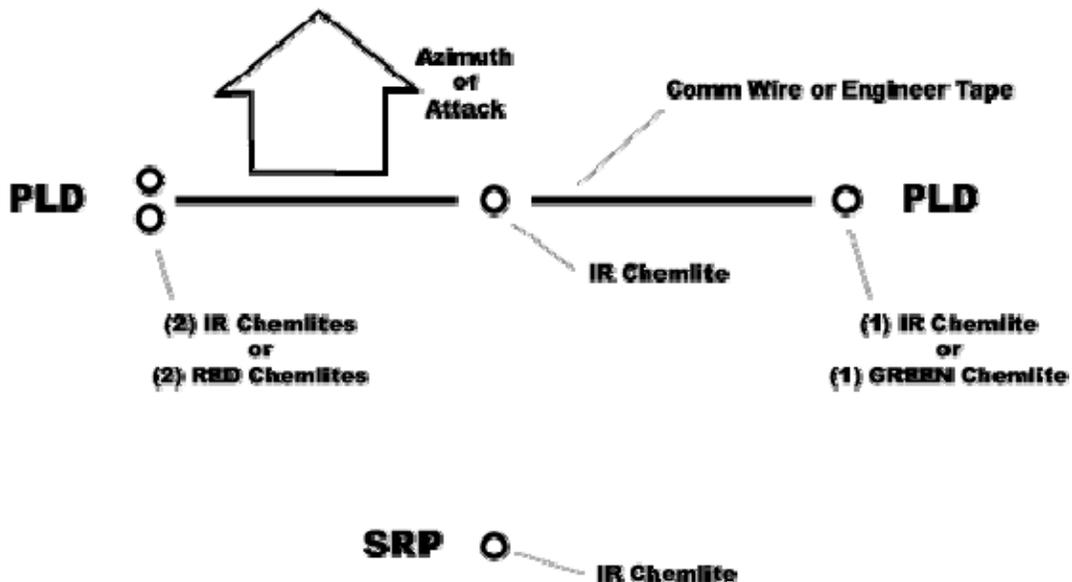

Figure 1. Platoon PLD 'T.'
1. **Platoon PLD guides install each Platoon's PLD 'T.'** See *Figure 1*.
- d. The CoGySgt maintains (3) PLD kits. Each kit contains a 10-meter length of engineer tape for route marking, (5) IR chemlites, (1) red chemlite, (2) green chemlites, electrician's tape, (2) 30-meter lengths of comm wire or engineer tape, and (5) large nails.